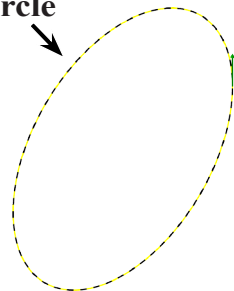

Fig. 6
Step 5. Click **circle** to chain, Fig. 6.